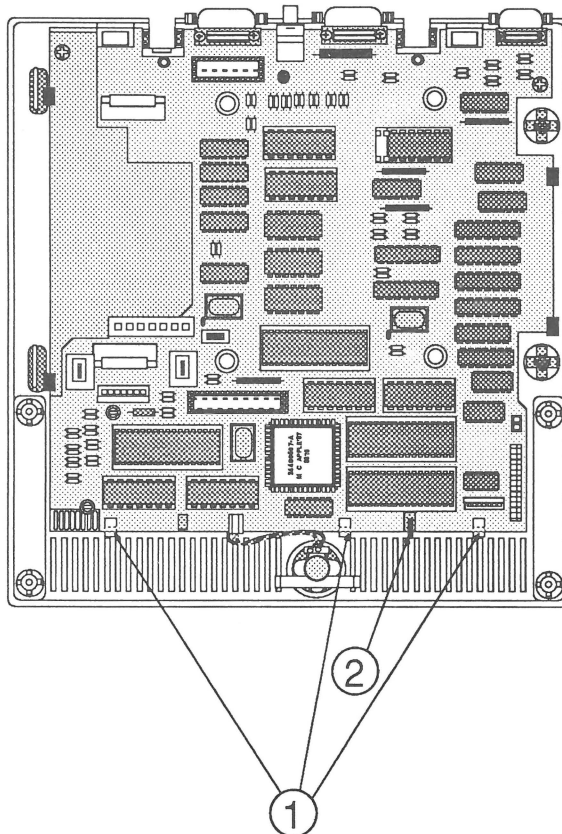

FIGURE 12
1. Place the logic board in position in the bottom case. Make sure the front of the logic board is under the three clips (Figure 12, #1) in the bottom case. The tab in the bottom case should also be in the slot (Figure 12, #2) cut in the logic board.